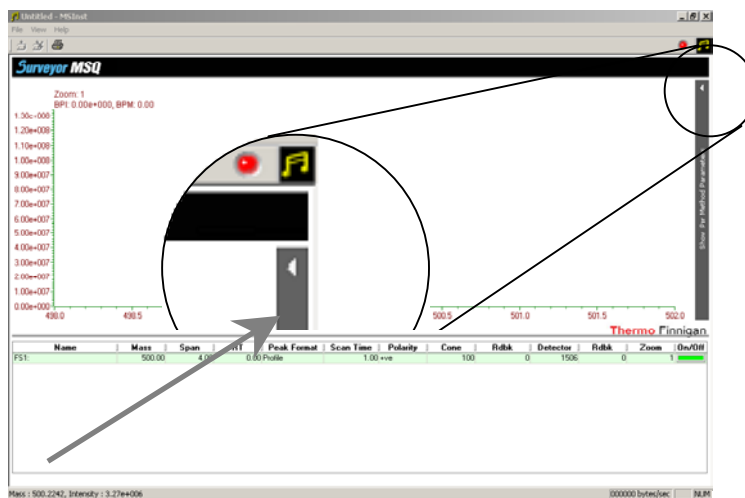

Figure 2-5. Tune Window - Per Method Parameters “Slide Bar”
- This will open the tune window shown in Figure 2-5.
- Click on the **Per Method Parameters** ‘Slide Bar’ as shown in the detail in Figure 2-5.